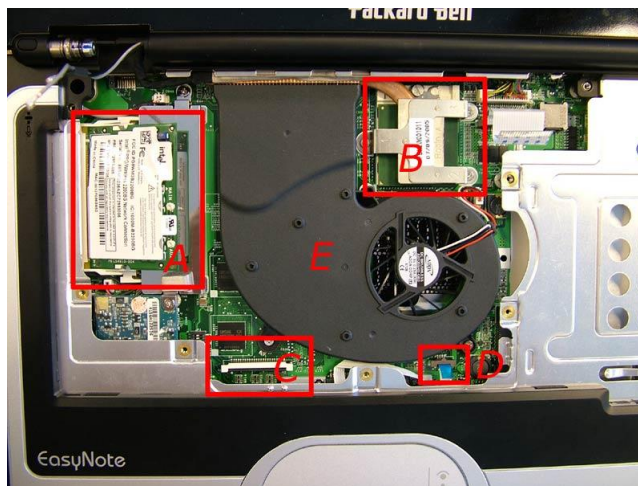

Fig. 10 A = WLAN mini-PCI card and 2nd SO-DIMM slot; B = CPU; C = keyboard connector; D = glide pad connector; E = CPU fan.
1. Remove the CPU-fan (marked **E** in Fig. 10) by removing the 2 screws and disconnecting the power cable from the main board.